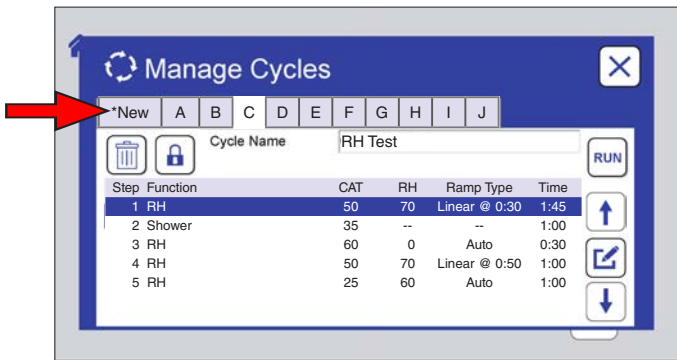
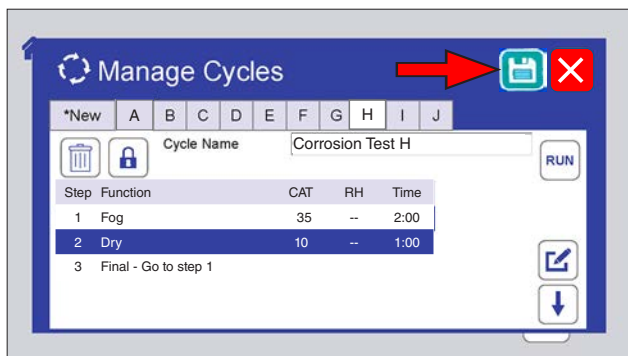

Figure 9.6.7a: To create a new cycle, touch the *New tab.
Figure 9.6.7e: Follow Figure 9.6.4a through Figure 9.6.4i to add steps and save the new cycle.
- o Create a new cycle (Figure 9.6.7a through Figure 9.6.7e).